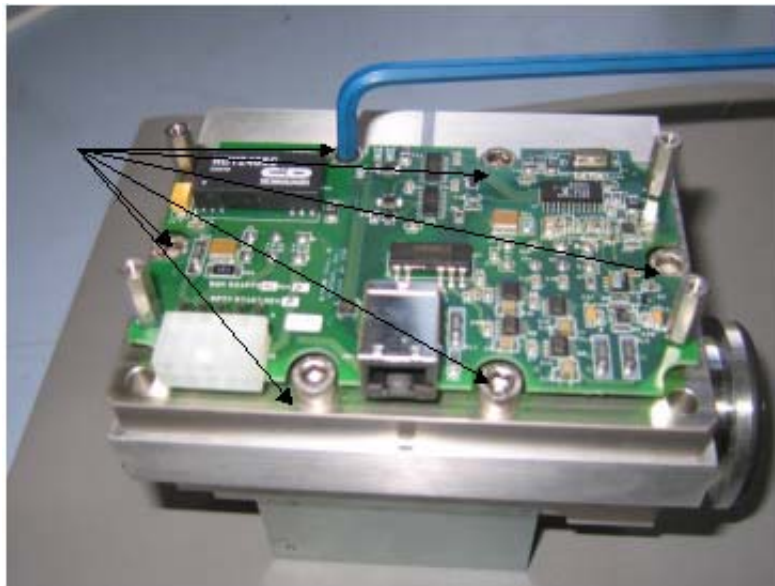

Figure B-79 Spectrometer Header Assembly Screws
- Using an M5 allen wrench, remove the six screws holding on the spectrometer header assembly (Figure B-79).